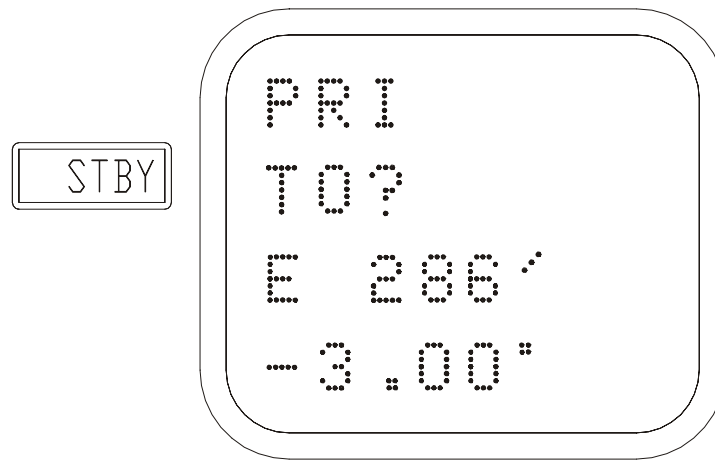

Figure 3-5:
- Push the STBY pushbutton until “TO?” shows on the STBY line (Figure 3-5).